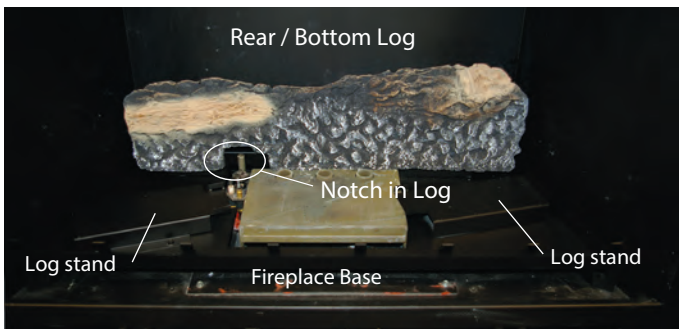
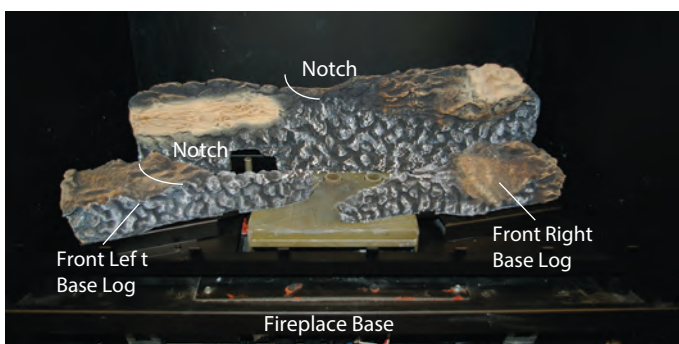

Figure 8b. Bottom/Rear log placement.
Figure 8c. Front base logs placement.
Step 2. Install Bottom Rear log as shown in *Figure 8b*.
Step 3. Install Both front base logs, (*Figure 8c*) on the log stands provided. See *Figure 8b*.